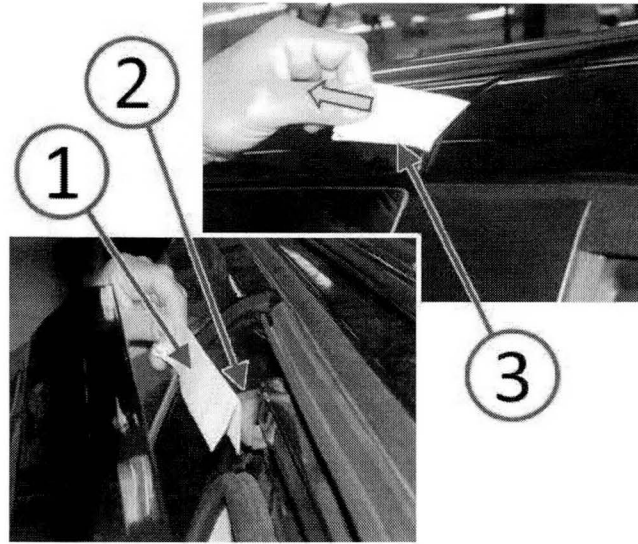

Fig. 3 Check Bumper Clearance
7. Hold a piece of paper (1) in front of the rubber bumper (2). Make sure fingers and hands are clear of the door opening then shut the door while holding the paper in position (Fig. 3).
8. Slowly pull the paper (3) while feeling for any tension or resistance on the paper during paper removal (Fig. 3). If tension or resistance was felt while removing the slip of paper, that would indicate a contact interference condition between the rubber bumper and the door inner panel.